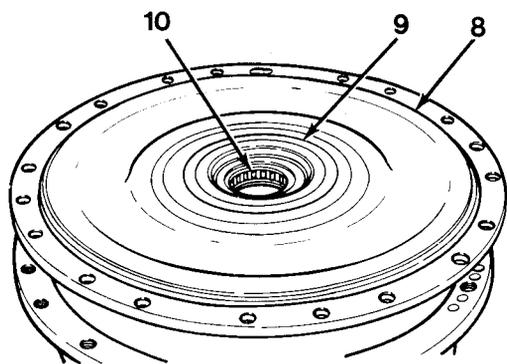

Figure 11-2
10. Install bearing (10) and seal (9) in front cover (8, Figure 11-2).